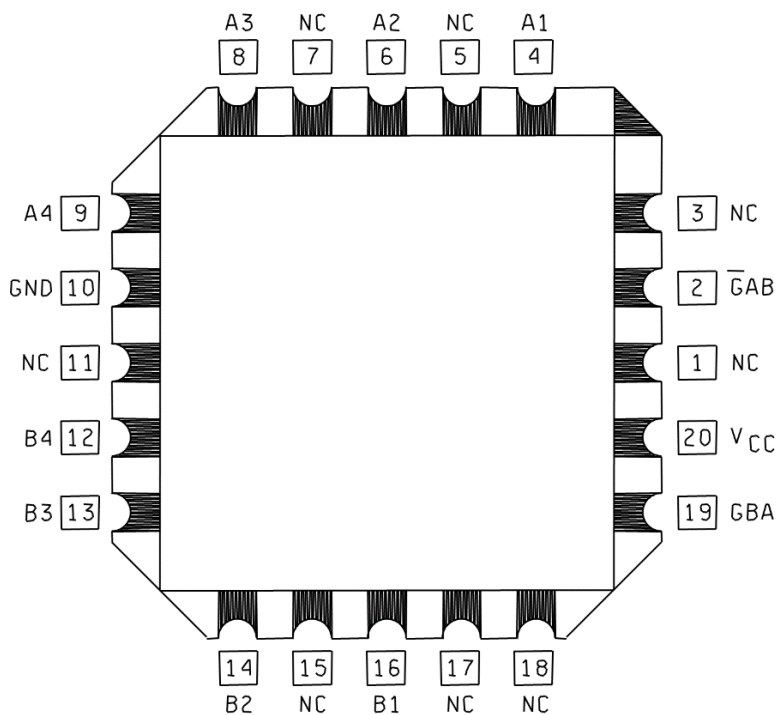

FIGURE 1. Terminal connections.
3.2.2 Terminal connections. The terminal connections shall be as specified on figure 1.